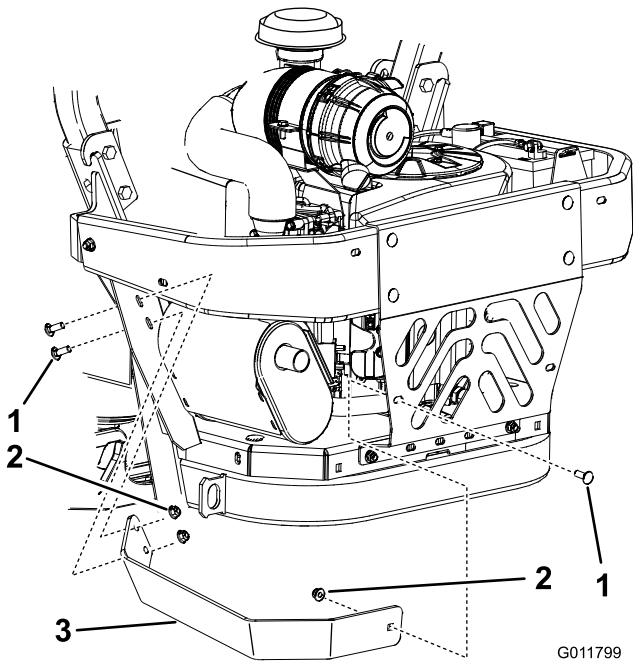

Figure 6
2. Install the new muffler guard with the previously removed hardware (Figure 6).